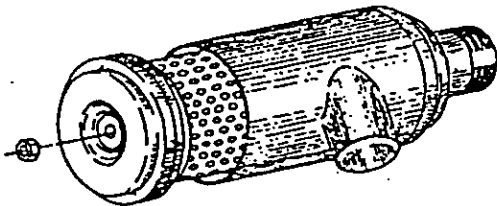

Figure 11
- Opening the filter housing (Figure 11):